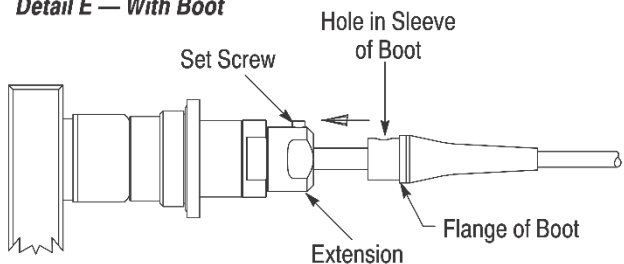

Figure 15
15. Secure the bench-mount assembly fixture to a stable work surface. Fit the end of the housing onto the captive housing of the bench-mount assembly fixture. See Figure 15, Detail A.
16. Using 15-mm open-end wrench, tighten the compression sleeve to a torque between 4 and 5 N·m. See Figure 15, Detail A.
17. Apply 2 to 3 drops of threadlocker to the threads of the housing. Then, apply the grease around the O-ring on the outside of the housing. See Figure 15, Detail B.
18. Slide the jam nut (standard connector) or grounding nut (grounding connector) onto the housing, and finger-tighten. See Figure 15, Detail B. Using the 20-mm open-end wrench, tighten the nut to a torque between 10 and 12 N·m.
19. Slide the extension onto the end of the housing, and finger-tighten. See Figure 15, Detail C. Using the 16-mm open-end wrench, tighten the extension to a torque between 4 and 5 N·m.
If the boot is *not* included with the cable adapter kit, using the 2-mm hex wrench, thread the set screw into the hole in the extension until it bottoms (on the crimp sleeve). See Figure 15, Detail D.
If the boot *is* included with the cable adapter kit, using the 2-mm hex wrench, thread the set screw into the hole in the extension by approximately two turns. See Figure 15, Detail C. Then align the hole in the sleeve of the boot with the set screw and slide the boot into the extension, and over the crimp sleeve, until the flange of the boot bottoms on the extension. Thread the set screw through the hole in the sleeve of the boot until it bottoms on the crimp sleeve. See Figure 15, Detail E.